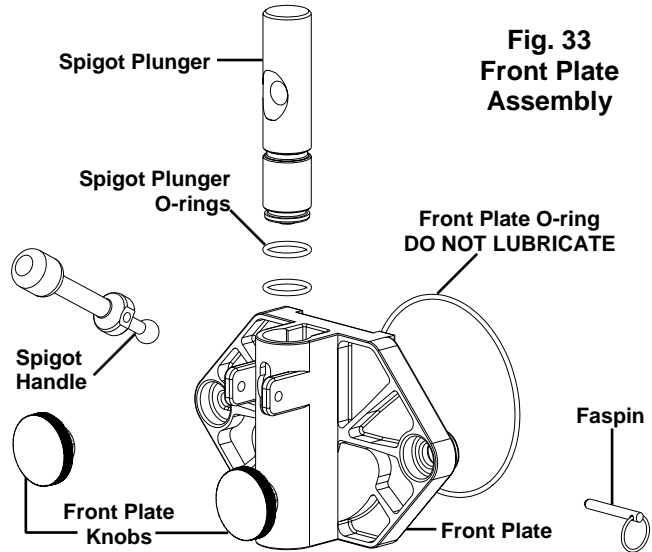

Fig. 33
1. Do not lubricate the large o-ring on the rear of the front plate. If lubricated, it will not seal properly and product will leak from the front plate (Fig. 33).